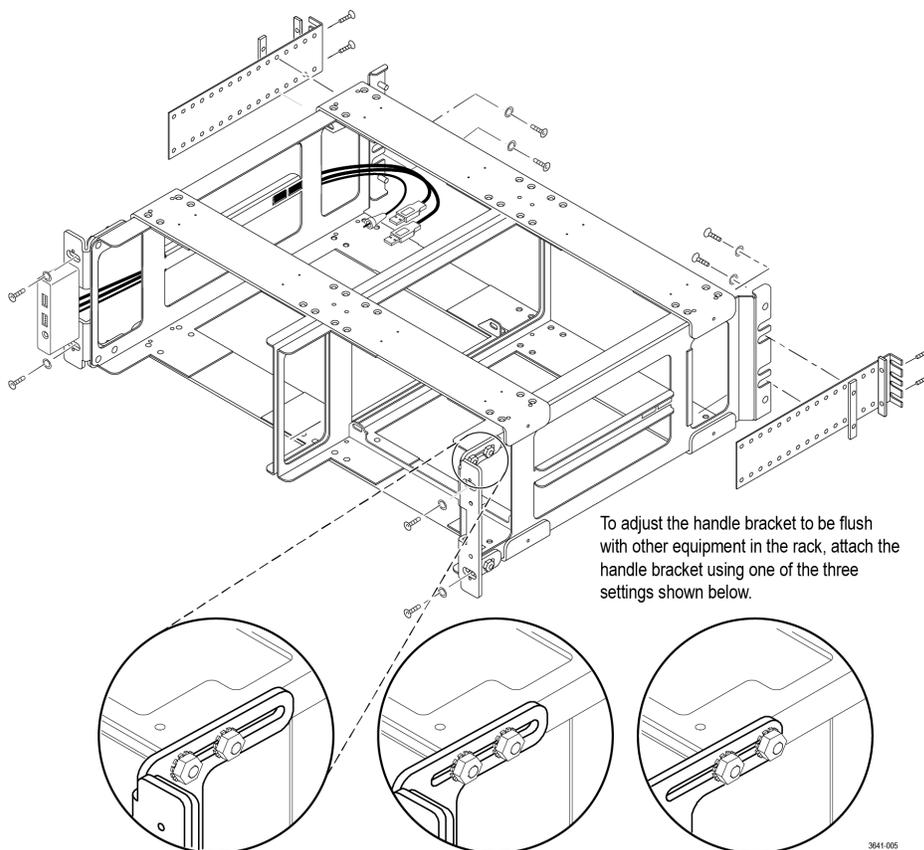

Figure 3: Adjusting the handle brackets and installing the guide brackets
2. If desired, you can adjust the position of the handle brackets to mount the adapter flush with other equipment in the rack. To do this, loosen the nuts that attach the handle brackets to the rack adapter, adjust the position of the handle brackets as desired, and then tighten the nuts securely. (See Figure 3.)
3. Use a screwdriver with a PosiDriv tip to attach the rack adapter assembly to the front frame of the rack with four 10-32 X 0.750 screws (item 6 in Table 4) and four shoulder washers (item 5 in Table 4).
4. Use a screwdriver with a Phillips tip to install one guide bracket (item 7 in Table 4) to one side of the rear frame of the rack with two 10-32 X 0.625 screws (item 2 in Table 4) and one nut bar (item 1 in Table 4) as shown. (See Figure 3.)
5. Use a screwdriver with a Phillips tip to attach the guide bracket to the cabinet with two 10-32 X 0.625 screws (item 2 in Table 4), two washers (item 4 in Table 4) and one nut bar (item 1 in Table 4). Use the holes in the bracket that will accommodate the depth of the instrument rack frame being used. Leave the screws loose.